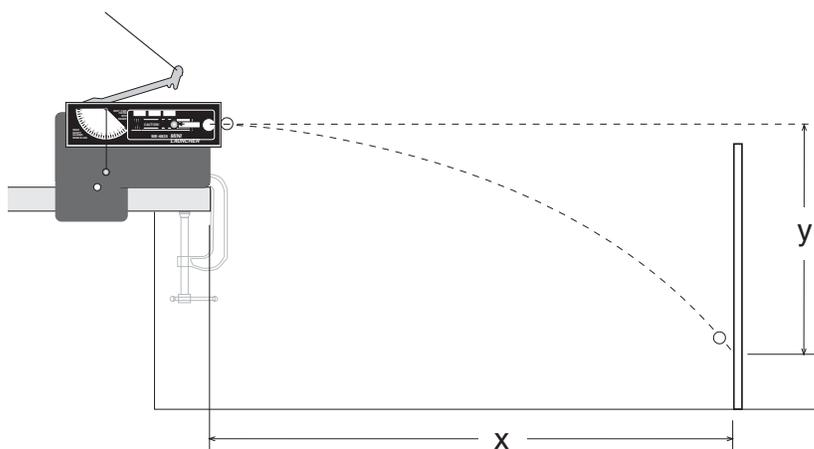

Figure 4.1: Setup
- ① Clamp the Mini Launcher near one end of a sturdy table with the Launcher aimed away from the table.
- ② Adjust the angle of the Mini Launcher to zero degrees so the ball will be launched horizontally.
- ③ Fire a test shot on the long range setting to determine the initial position of the vertical target. Place the target so the ball hits it near the bottom. See Figure 4.1.
- ④ Cover the target board with white paper. Tape carbon paper